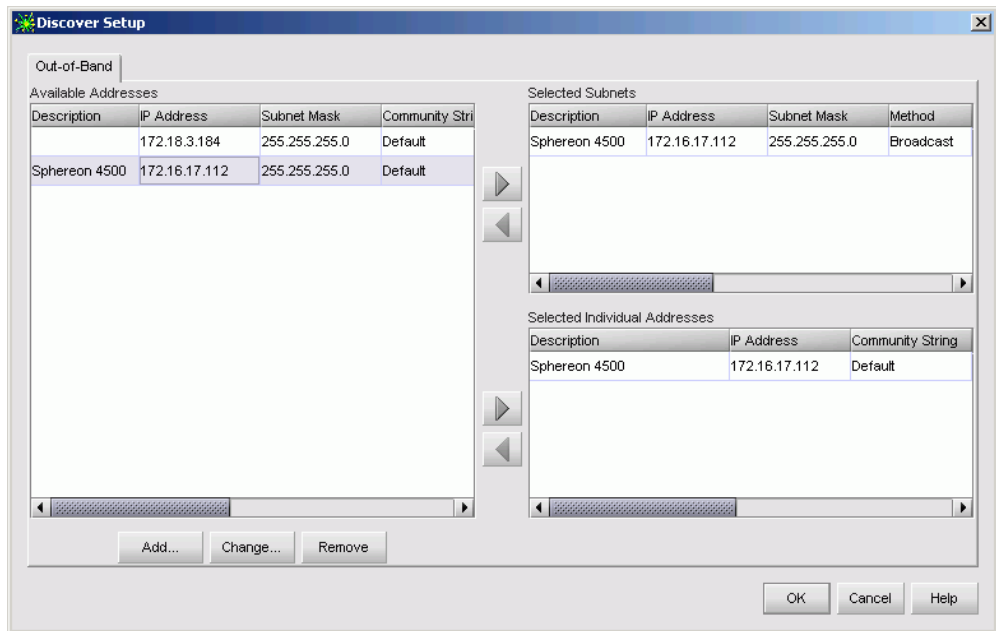

Figure 3-30 Discover Setup Dialog Box
- a. At the SAN management application (SANavigator or EFCM main window), select the *Setup* option from the *Discover* menu. The *Discover Setup* dialog box displays (Figure 3-30 on page 3-65).
- d. At the SAN management application main window, select the *Setup* option from the *Discover* menu. The *Discover Setup* dialog box displays (Figure 3-30 on page 3-65).